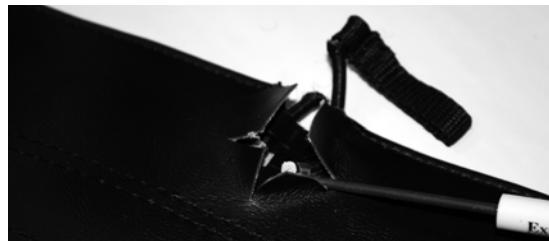

Figure 4
- ③ Pry out the broken bungee loop using a small screwdriver (see Fig. 4).